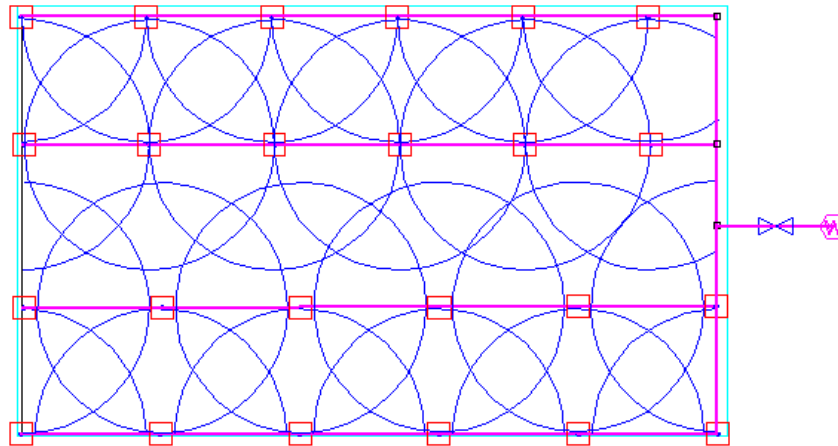

Figure 4-16
6. Select a **1" (25mm) valve** and connect the valve to the zone pipe end. Select *Mainline|Pipe* and connect the valve to the water supply to complete the system. See Figure 4-16. Follow the same design procedure as in the previous tutorials. (Due to a minor issue in IRRICAD where, when doing designs back to back in the same session, the valve pressure setting from the previous design will be remembered in the next design first go to *Design|Zone Design Configuration* and simply click **[OK]** on the dialog to clear this).